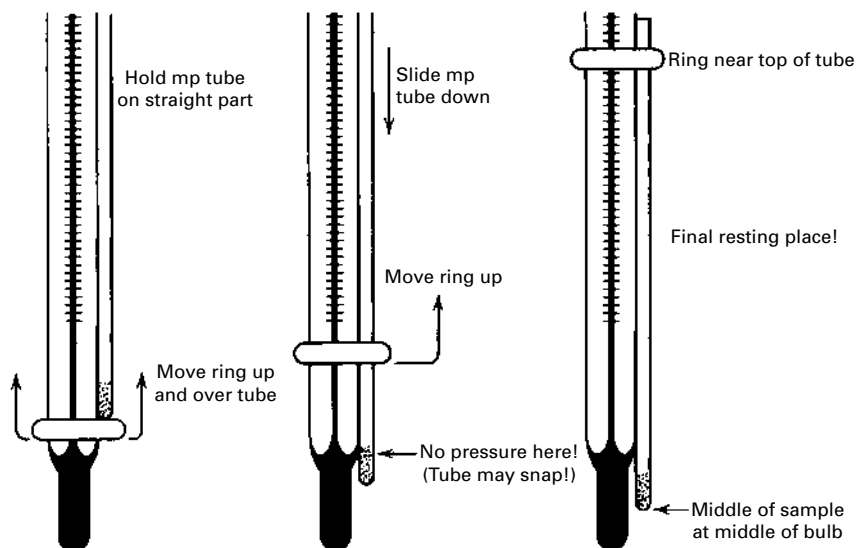

FIGURE 12.10 Attaching the mp tube to the thermometer without a disaster.
2. Put the *bottom* of the loaded mp tube *just above* the place where the thermometer constricts (Fig. 12.10), and carefully roll the rubber ring onto the mp tube.